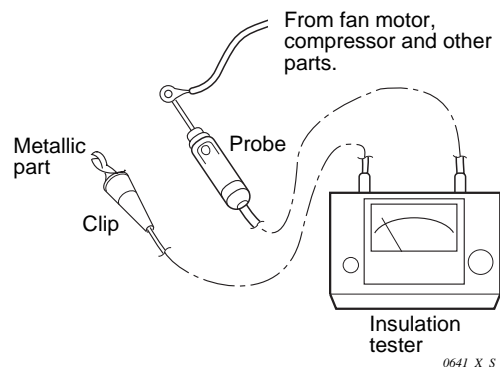

Fig. 45
- Similarly, disconnect the lead wires from compressor, capacitor, etc. (Fig. 45)